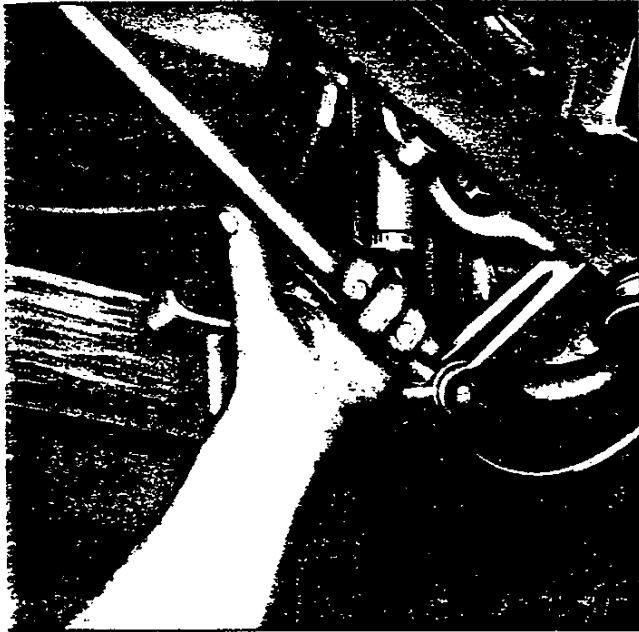

Fig. 15—Removing Strut Rod
6. Remove cam bolt nut and cam and bolt assembly. Pull strut down out of bracket and remove bushing caps (fig. 15).